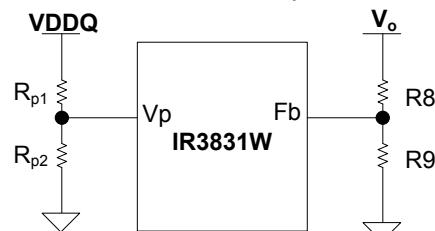

Fig. 10. Typical application of the IR3831W for programming the output voltage
When an external resistor divider is connected to the output as shown in figure 10. Equation (5) can be rewritten as: